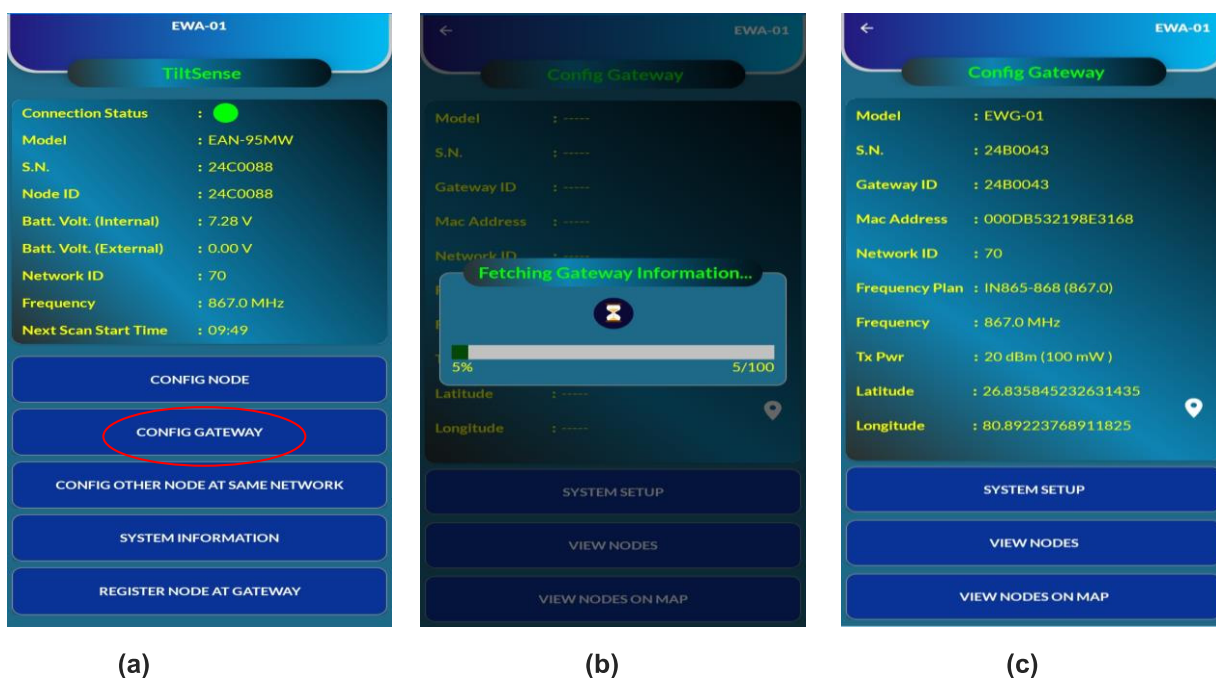

Figure 7-1 Config gateway (via tilt meter node)
- Click on the “Config Gateway” tab from the main menu. A window as shown in the figure 7-1 (a) will appear. Screen shows the gateway information and configuration options.
- To view all the nodes connected within the wireless network, click on the "View Nodes" tab from screen shown in figure 7-1 (c). Screen as shown in figure 7-2 (b) will appear.